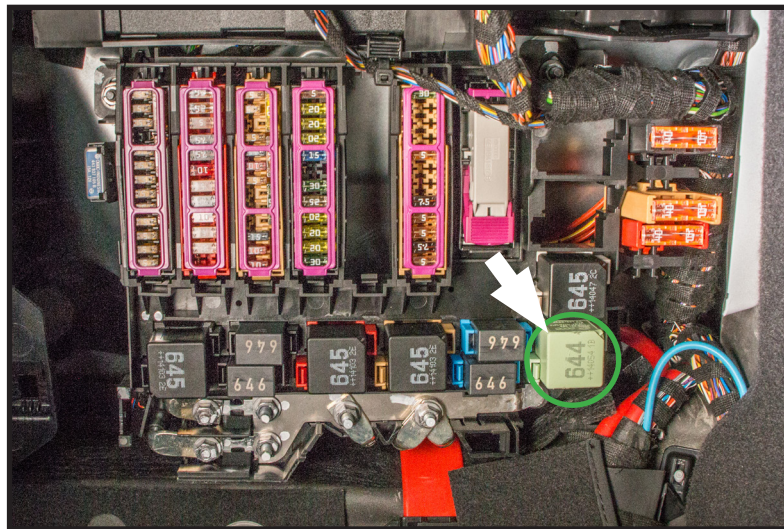

FIGURE 36
4. REINSTALL THE PROTECTIVE SHIELD. (FIGURE 36)